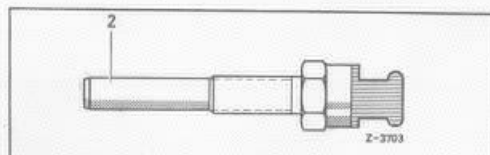

FIG. 18
5. As final correction measure, an AIR TEMPERATURE SENSOR (Fig. 18) located in the air filter housing causes a fuel enrichment up to an air temperature of 70 F.. The sensor works on the same variable resistance principle as the water sensor.